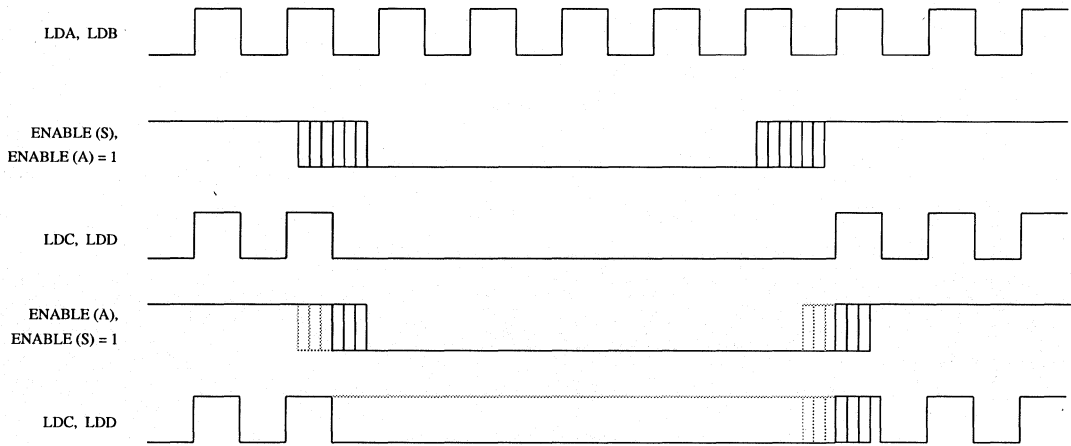

Figure 2. Load Output Timing.
While both ENABLE (S) and ENABLE (A) are a logical one, LDC and LDD will be free running and in phase with LDA and LDB. This architecture allows the shift registers of the video DRAMs to be optionally nonclocked during the retrace intervals. Figure 1 illustrates the ENABLE implementation within the Bt440, while Figure 2 shows the load output timing.